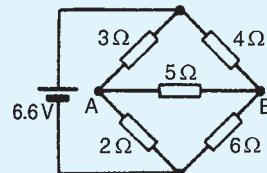

Figure 13.52
5. For the bridge network shown in Fig. 13.52, find the current in the  $5\Omega$  resistor, and its direction, by using Thévenin's theorem.